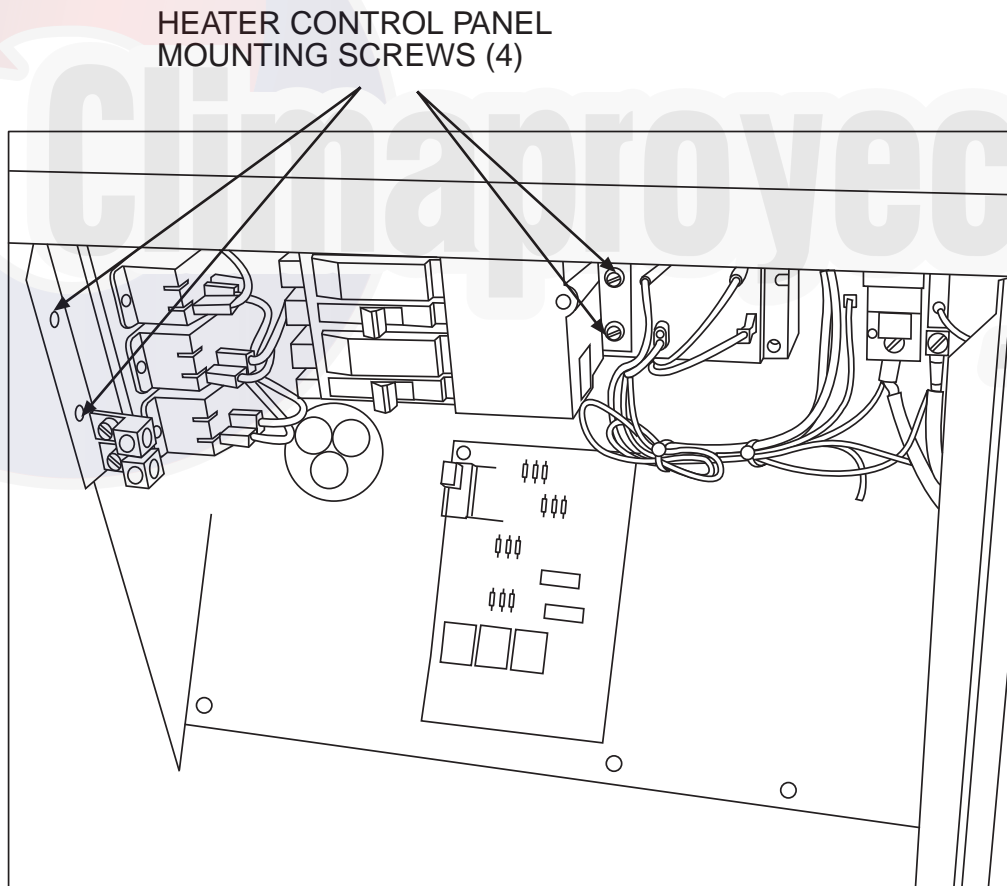
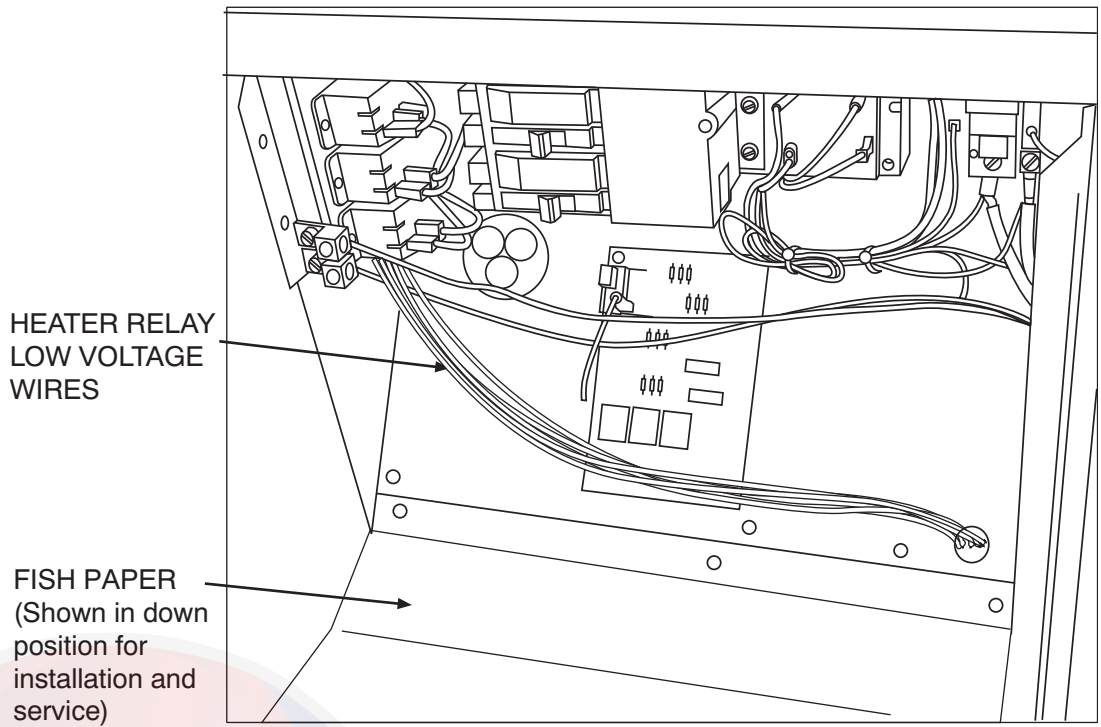

Fig. 6 – Heater Control Panel Installation
Fig. 7 – Heater Low Voltage Connection
- Rotate heater control panel into unit control box area and locate it into top left corner of control box; secure heater control panel to unit control box with (4) screws provided (See Fig. 6).
- Open flexible “fish paper” insulation cover provided with unit control box and route heater low voltage wires along the bottom of the unit control box. Route low voltage leads from heater relay(s) through hole in unit control box and into low voltage splice box. (See Fig. 6 and Fig. 7.) dress wires and secure them to existing unit control wires with wire ties provided .